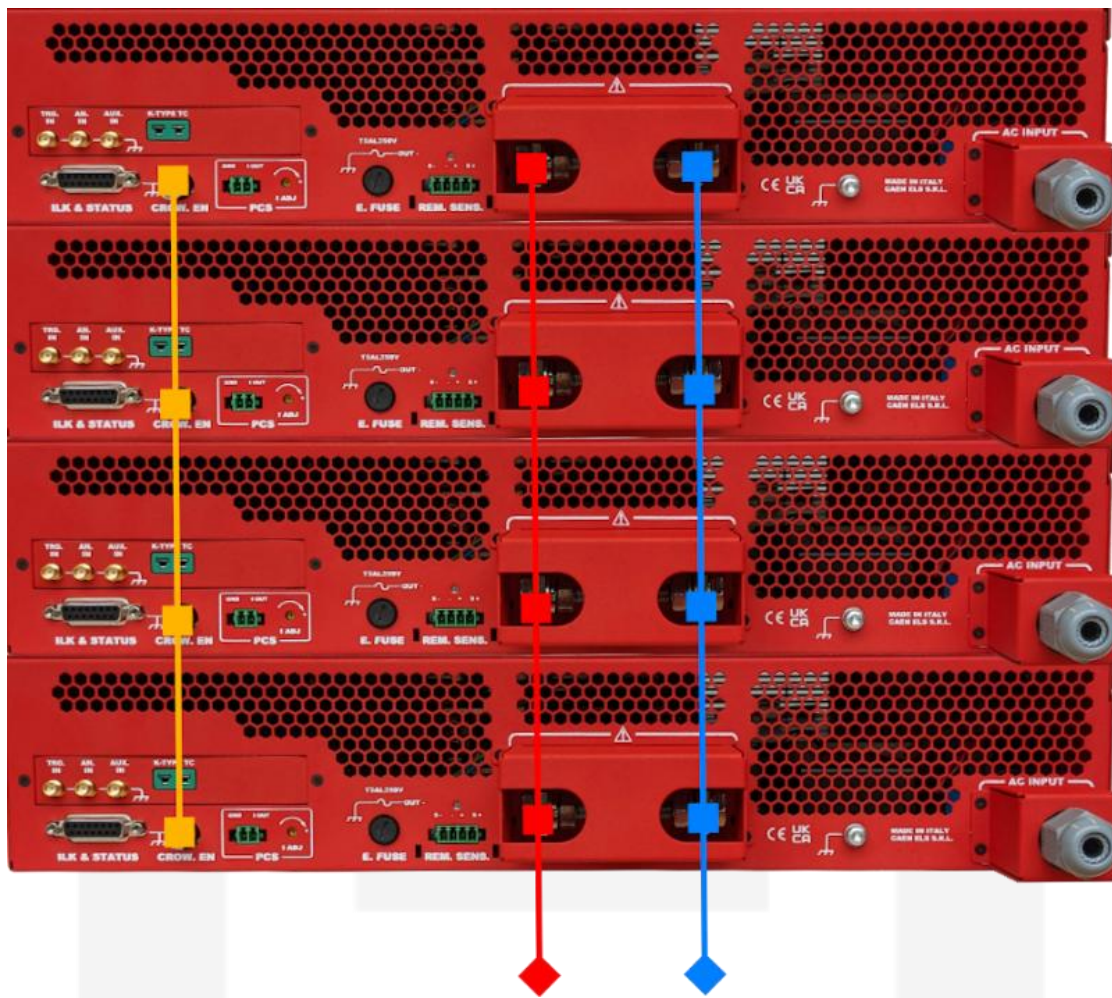

Figure 34: Parallel configuration, rear panel.
- Connect PS output terminals with proper cables or busbars (see section 4.3) in order to put the PSs in parallel configuration following the connections reported in **Figure 34** (blue and red lines);
- Connect the crow-bar cables on the rear panel following the connections reported in **Figure 34** (orange lines);